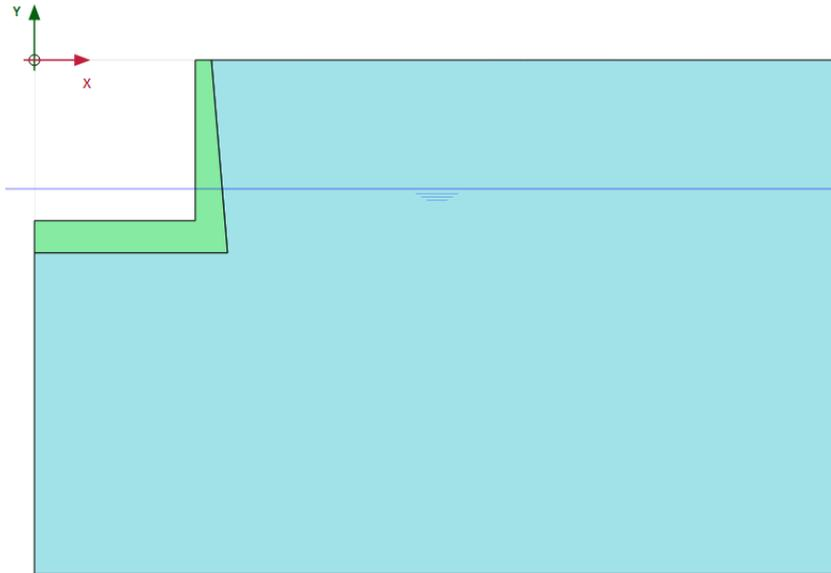

Figure 15.11 The model at the end of *Phase_1*
- Figure 15.11 shows the model at the end of *Phase_1*.